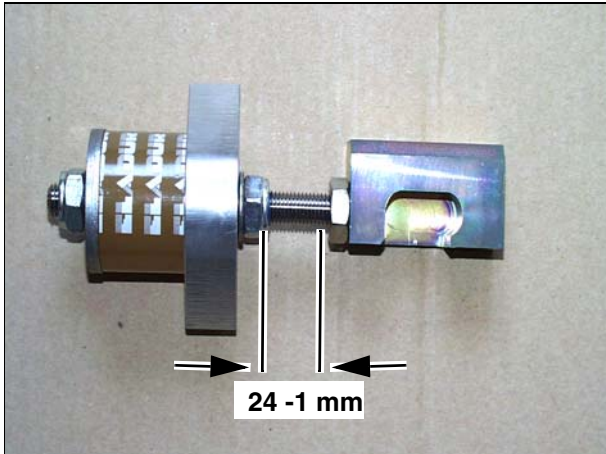

Fig. 36
- Be sure to have correct spacing (Fig. 36).